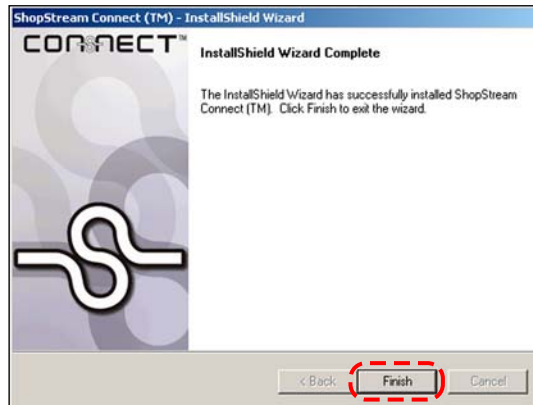

Figure B-6 Sample Complete screen
- 6. When the Complete screen displays, select **Finish** to close the Install Wizard (Figure B-6).